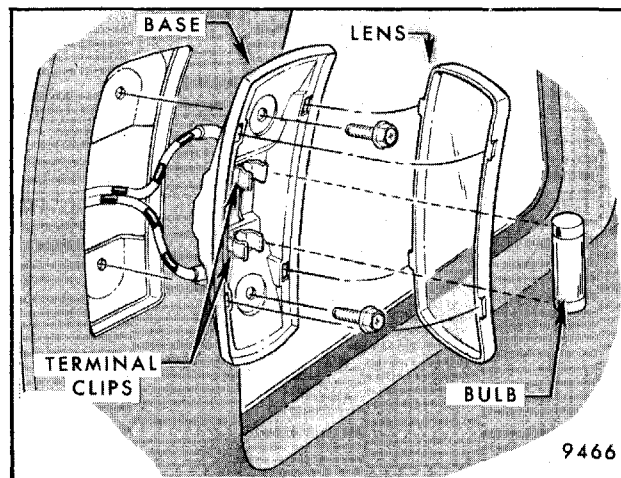

Fig. 6-10 - Rear Quarter Upper Trim Courtesy Lamp - "A" Body Styles
- a. Insert a flat-bladed screwdriver or similar tool between courtesy lamp lens and lamp base. Press outboard to disengage lens retaining tabs from base (Fig. 6-10).
- d. To disengage wire harness from lamp base, grasp terminal clip with pliers and push clips through back of base (Fig. 6-10).